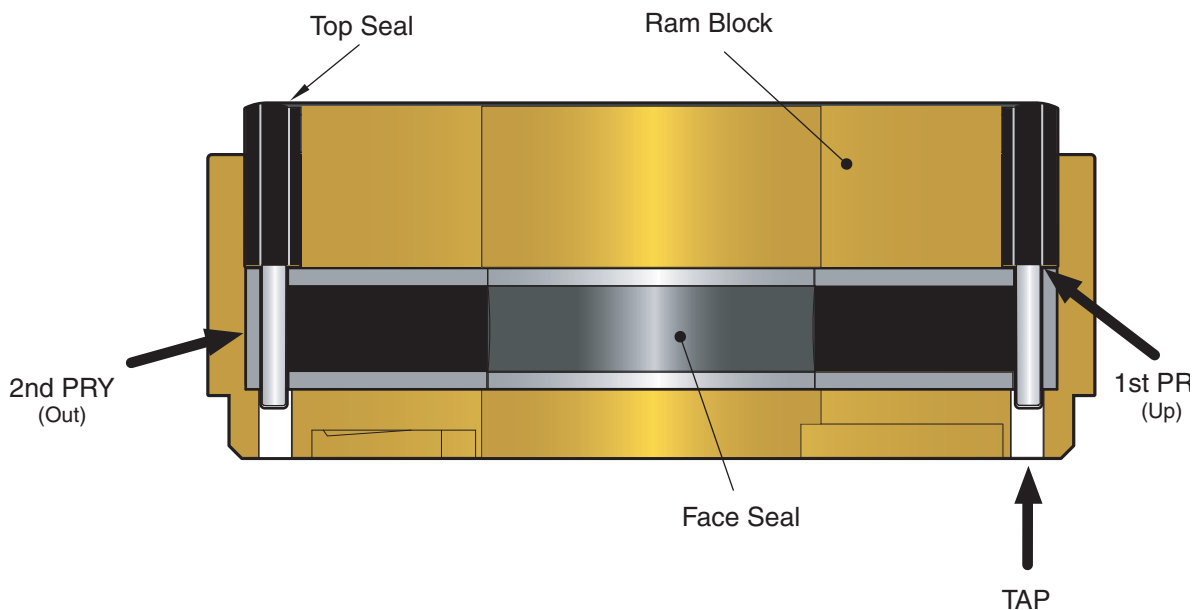

Figure 5-84. Removing Ram Seals
2. Using a long screwdriver, pry the top seal from the ram block (see Figure 5-84).